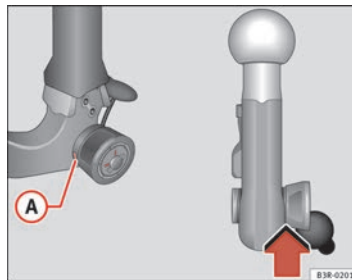

Fig. 159 Removable towing bracket: Safety check
- Check that the green marking **A** ⇒ page 200, fig. 159 on the knob is inside the black zone marked on the ball joint.